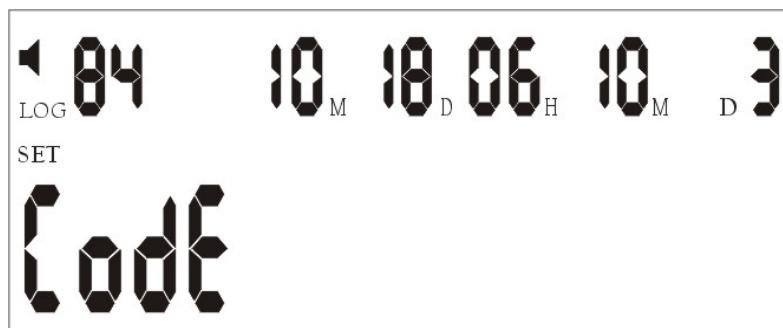

Figure 8
Logging in Key Fob: Press the PROG key on the Keypad, a series of - - - will appear on the LCD. Enter the PIN code or Press the Disarm key on a current registered Key Fob and the word 'Sensor' will appear on the LCD. Using the Key Fob you wish to register, press the "Disarm" key on the Key Fob, the panel will receive the Key Fob code and the LCD will show the word 'CODE' (refer to below figure 8). Press 0 key on the Keypad to identify you are registering a Key Fob. The LCD will now display the Key Fob number that it has allocated to that Key Fob. Press the PROG key to complete and save the information. The Key Fob is now registered and recognised by the control panel. **(when logging in the first key fob, the pin code is needed, the factory default pin code is 123456)**
Logging in Sensors: Press the PROG key on the Keypad, a series of - - - will appear on the LCD. Enter the PIN code or Press the Disarm key on a current registered Key Fob and the word 'Sensor' will appear on the LCD. Trigger the detector you wish to register, the panel will receive the detectors code and the word 'CODE' will appear on the LCD(refer to figure 8). Pressing a numeric key 1 to 8 on the Keypad will select the Zone you wish to allocate the detector. e.g. Pressing No 3 on the Keypad will allocate the detector to Zone 3. The control panel will then automatically allocate the detector with the next available detector number in that Zone. So, if there are no detectors allocated in Zone 3 the control panel will allocate it as detector No 1 and the next detector to be registered in Zone 3 will be allocated detector No 2 etc. To complete and save the information press PROG key.